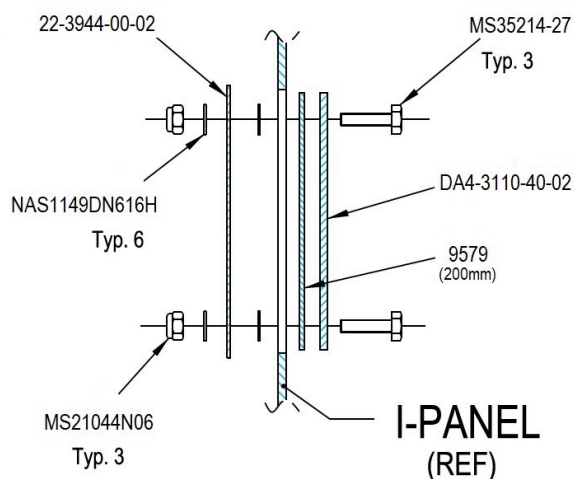

Figure 1. Blanking plate assembly.
4. Assemble the blanking plate. See Figure 1.